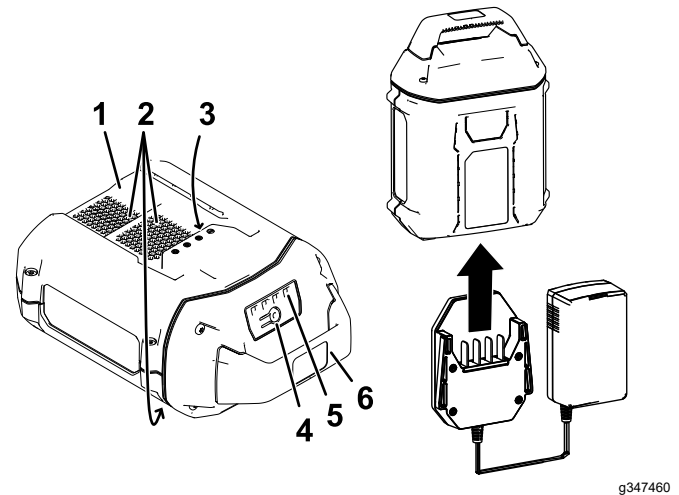

Figure 14
2. Line up the cavity in the battery pack (Figure 14) with the tongue on the charger.
3. Slide the charger into the battery pack until it is fully seated (Figure 14).